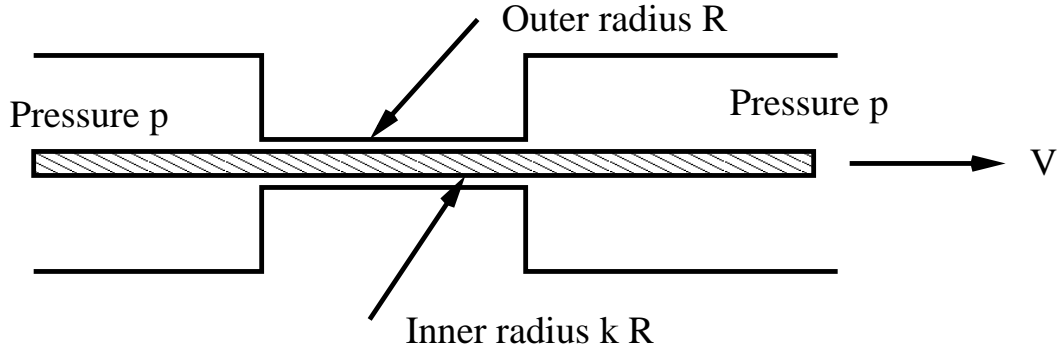

Figure 6: Wire coating.
1. In wire coating, a cylinder in a thin annular region, as shown in figure 6. The cylinder is pulled with a constant velocity  $V$ . The pressure is equal on both sides of the cylinder. Determine the fluid velocity, and the flow rate.